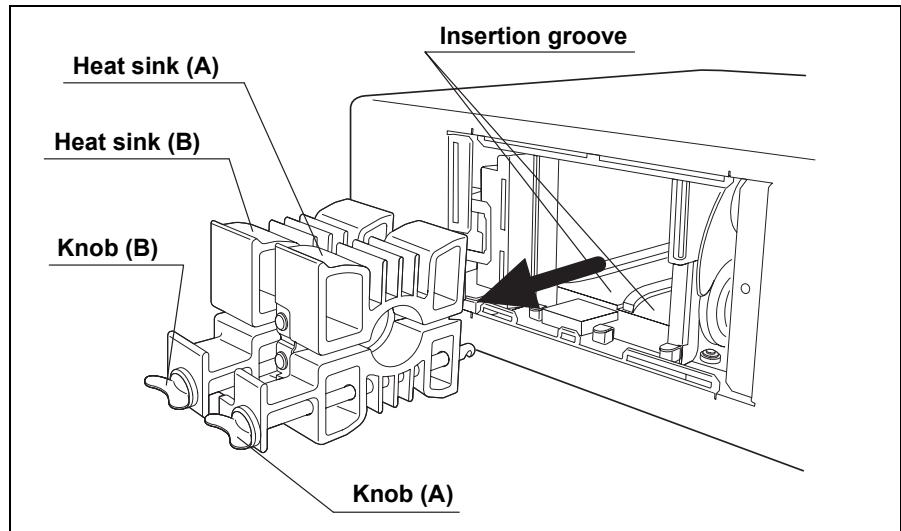

Figure 6.3
4. Turn knob (A) counterclockwise by 90° to loosen it. Then loosen knob (B) in the same manner.
5. Holding the knobs or projections of the heat sinks, remove the examination lamp with heat sinks (A) and (B) attached (see Figure 6.3).